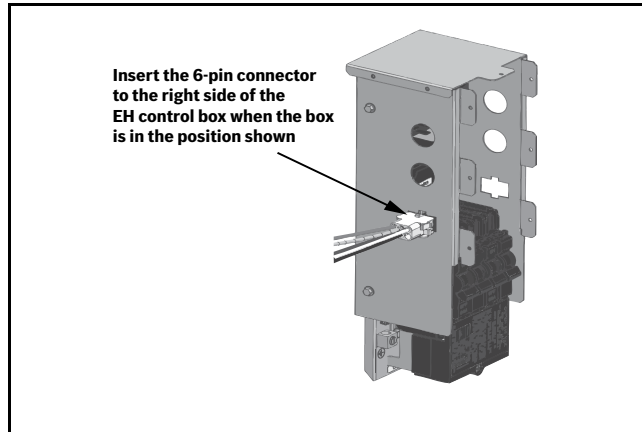

Fig. 31 Insert the 6-Pin Connector
1. Locate the e-heat's 6-pin connector and insert it into the corresponding hole of the e-heat control box. (→Refer to Fig. 31.)
- Use the holes on the same side as shown in Fig. 31 on page #16.